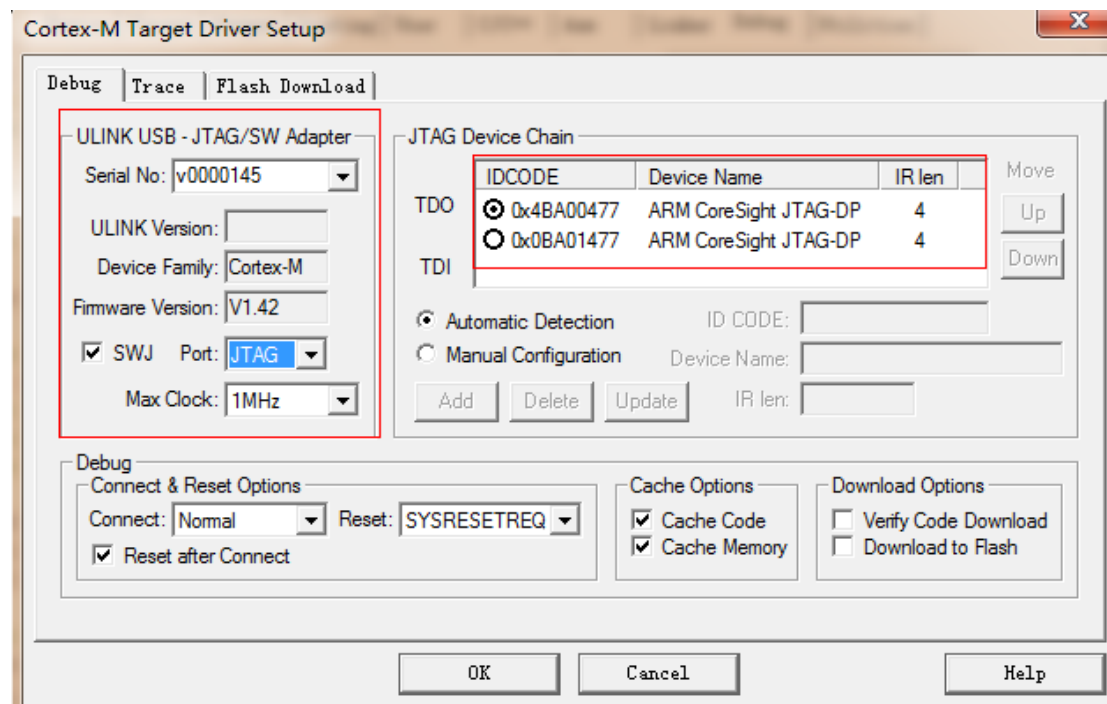
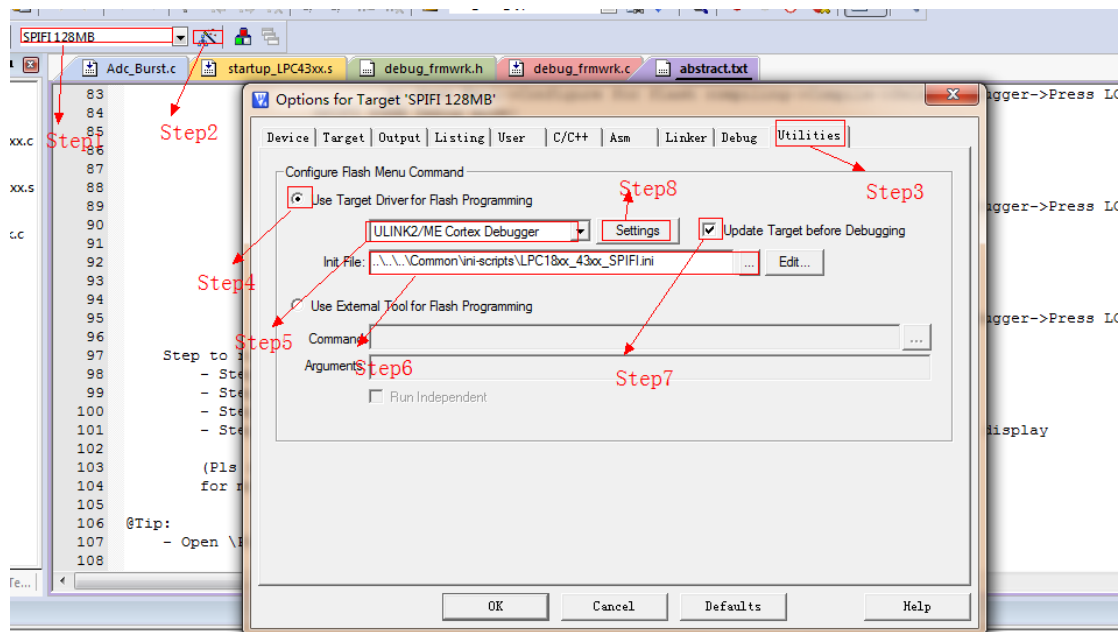
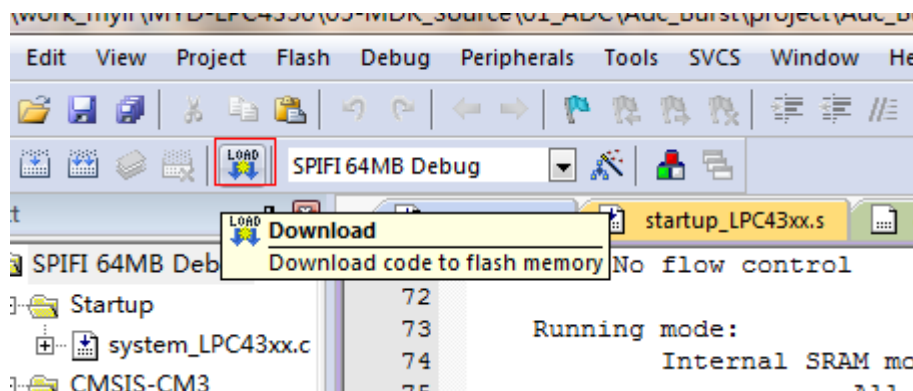

Figure 3-8
Figure 3-10
Figure 3-13
(3) Clicking Setting in figure 3-10, there will be connection status of ULink2 and board, as well as identification of kernel. Refer to figure 3-8: (Here take MYD-LPC435x for an
example. It displays two cores in figure 3-8, because LPC435x is M4/M0 dual-core processors.)
By default, each project component has already configured. It needs to select one of the components in step1 (SPIFI 128MB or NorFlash) to compile in figure 3-10. After compilation is completed, click Download button to download in figure 3-13. It needs to check and set only when download fails.
(1) Open 05-MDK Source\Examples\01\_ADC\Adc\_Burst\Keil\Adc\_Burst.uvproj, then select project type. Configuration interface is shown in figure 3-10:
Add Flash algorithm, then click “LOAD” to download. Refer to figure 3-13: